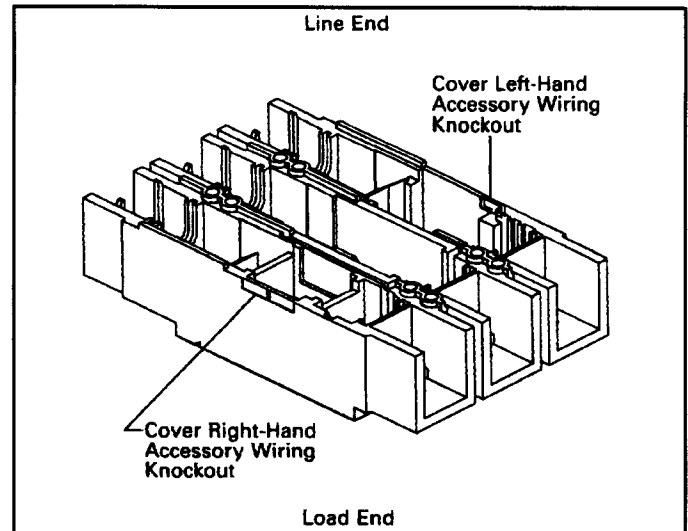

Fig. 2-2 Location of Accessory Wiring Knockout in Cover
- 2-4. Locate knockout (Fig. 2-2) provided in left side of cover for accessory wiring. Remove knockout and file rough edges smooth.